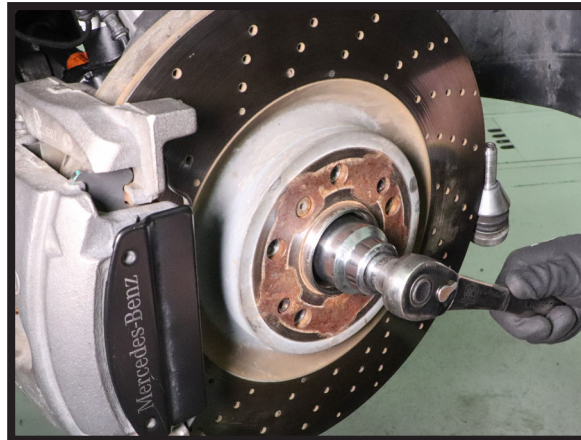

FIGURE 37
8. REINSTALL AXLE NUT AND TIGHTEN TO MANUFACTURER'S SPECIFICATIONS. (FIGURE 37)